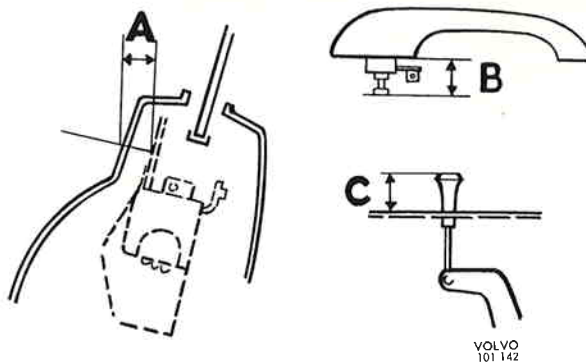

Fig. 28. Adjusting measurements for lock
2. Adjust measurement A, Fig. 28 to 15 ± 0.5 mm (0.59 ± 0.02 ") by turning the lock. Tighten the lock hard. If it is not possible to obtain the correct measurement for A by turning the lock after it has been tightened up as near to A as possible, the remaining adjustment is done by bending the lever (5). Measurement A must be checked within the specified tolerances.
3. The remote control (12) with split pin (11) fitted is pushed backwards so that the lever (9) stops against the lock (10). The remote control is screwed on in this position. Remove the split pin (11).
4. Fit the lever (7) for the inner locking knob (15).
2. Adjust measurement A, Fig. 28 to 17 ± 0.5 mm (0.67 ± 0.02 ") by turning the lock. Tighten the lock hard. If it is not possible to obtain the correct measurement for A by turning the lock after it has been tightened up as near to A as possible, the remaining adjustment is done by bending the lever (5). Measurement A must be checked within the specified tolerances.
3. The remote control (13) with split pin (12) fitted is pushed backwards so that the lever (10) stops against the lock (11). The remote control is screwed on in this position. Remove the split pin (12).
4. Fit the lever (17) and connect the link (16) to the lever (7).
5. Set the lever (7) in the locked position, i.e. backwards against the lock and lever (14) in the rear catch position. Check through the control hole (12) that the lever moves fully to the catch position. In this position the lever (14) is locked to the link (16) with screws at the clips (15). Check that the link (16) does not rub against the inner plate of the door. On the other hand it must not be bent out so much that it rubs against the screws of the inner trim moulding.
1. Check that measurement B, Fig. 28 = 15 ± 1 mm (0.59 ± 0.04 "). Adjust if necessary. Tighten the locknut (2) on the screw (3), Fig. 26.
2. Fit the outer handle (1) with link (6) fitted on.
3. Connect the link (6) to the lever (14). Adjustment is done by selecting one of the three holes so that the recess and hole in the outer handle coincide. This is done by inserting a pin (4) into the hole in the outer handle as shown in the figure. They should come in line when the locking knob (15) is pressed down, i.e. the lever (7) is pressed down and the lever (8) moved backwards against the lock.
1. Check that the measurement B, Fig. 28 = 15 ± 1 mm (0.59 ± 0.04 "). Adjust if necessary. Tighten the locknut (2) on the screw (3), Fig. 26.
3. Connect the link (6) with the lever (14). The lever in the handle is set in such a position that a pin (4) (3 mm = 0.12") can be inserted in the hole in the handle. Adjusting is done by screwing the link up or down so that the loop of the link (6) comes in line with the lever (14) on the lock.
1. Check that the measurement B, Fig. 28 = 15 ± 1 mm (0.59 ± 0.04 "). Adjust if necessary. Tighten the locknut (2) on the screw (3), Fig. 27.
3. Connect the link (6) with the lever (8). The lever in the handle is set in such a position that a pin (4) (3 mm = 0.12") can be inserted in the hole in the handle. Adjusting is done by screwing the link up or down so that the loop of the link (6) comes in line with the lever (8) on the lock.
With the locking knob in the pressed-down position, measurement C, Fig. 28 should be 12 ± 1 mm (0.47 ± 0.04 ") for both the front and rear door.